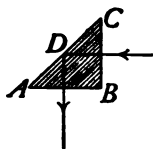

FIG. 374.—Total reflection in a right-angle prism.
*angle of incidence* is called the *critical angle*. Any increase in the angle of incidence causes all of the light to be reflected as is the beam *E*. This action is called *total reflection*, the course of the reflected ray being according to the law of reflection. A *right-angle prism* (see Fig. 374) is often used where a mirror would ordinarily be employed, the total reflection occurring within the prism giving more satisfactory results than a mirror. See Art. 398 for a description of the Zeiss binocular field-glass for an example of this use of total reflection.